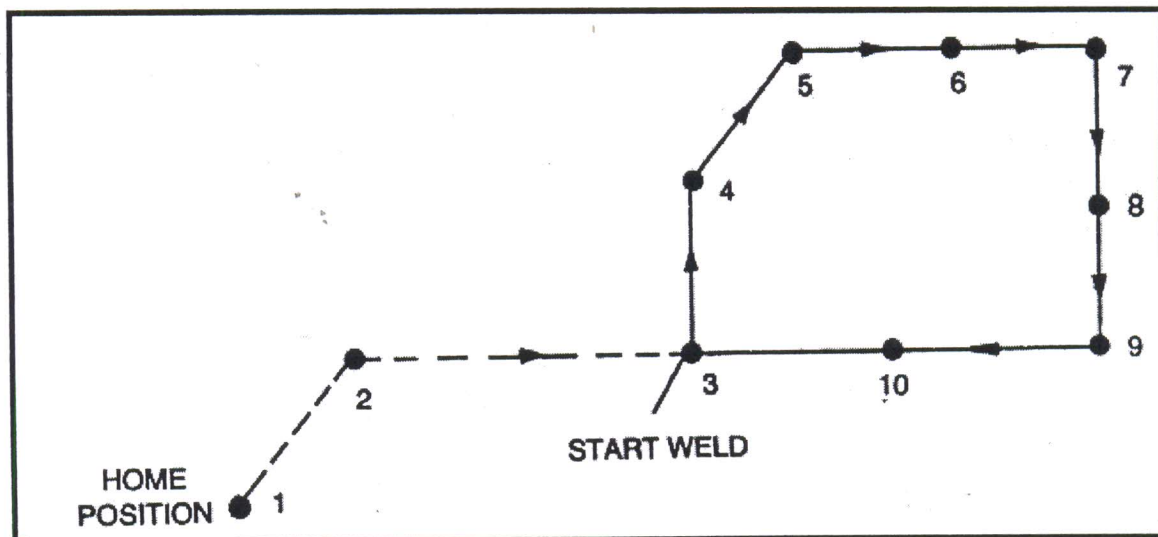

Figure 5: Trajectory for spot welding robot
- (f) Based on **Figure 5**, design a flow chart diagram for trajectory programming of the spot welding robot. (7 marks)